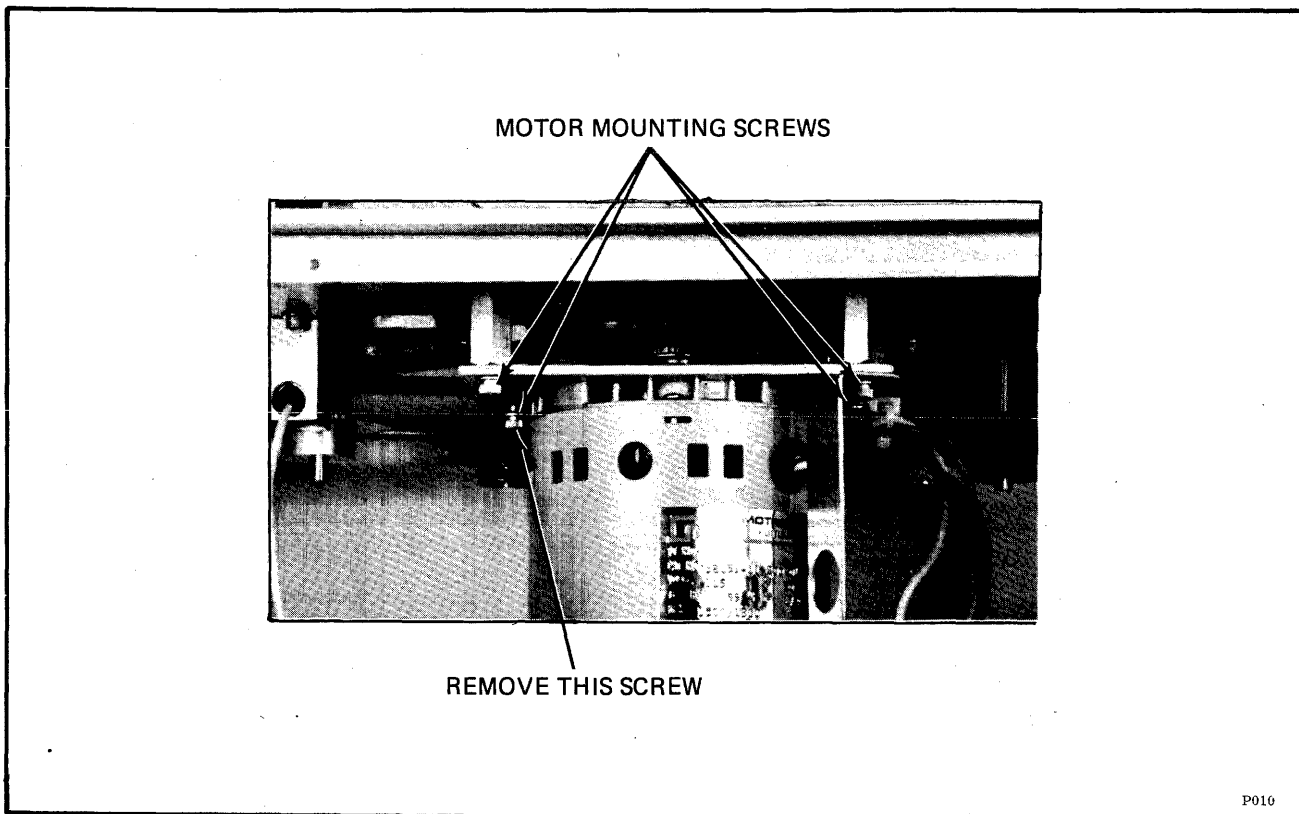

Figure 9-1. Main Drive Motor Mounting
- b. At bottom of mainframe, loosen three motor mounting plate screws (Figure 9-1).
- c. Loosen three motor mounting plate screws (bottom of mainframe). Remove fourth motor mounting plate screw, Figure 9-1.